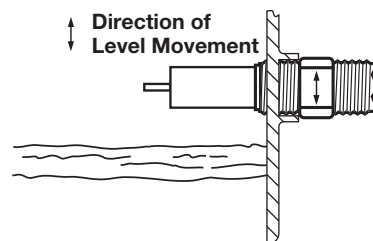

Figure 5
2. Make sure the sensor is properly oriented to the flow (refer to Figures 3 and 4) or level (refer to Figure 5).